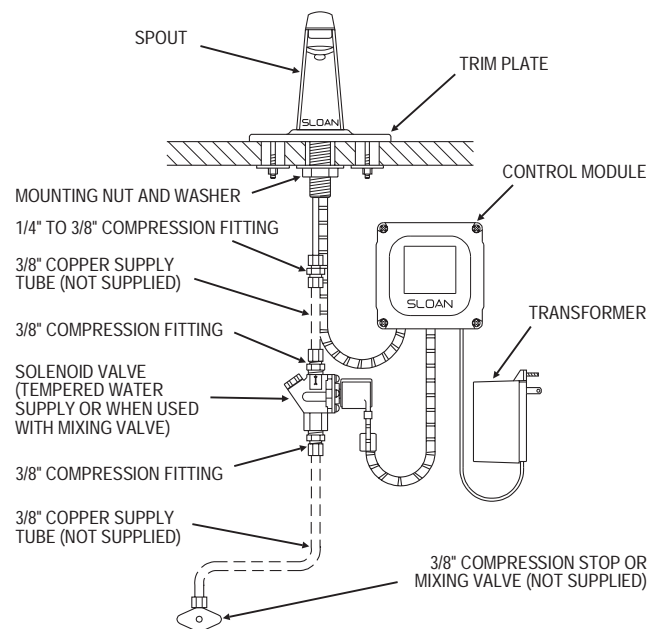

Figure 1
## FAUCET ROUGH-IN — Figure 1
Prior to installing the Sloan ETF-80 Faucet, install the items listed below. Also, refer to Figure 1.
The Sloan ETF-80 sensor operated faucet can be supplied with two back checks. When connecting the faucet to a hot and cold water supply, two back checks are required as shown in Figure 1. Water temperature can be controlled by adjusting the supply stops if the optional Sloan mixing valve is not purchased. When connecting the faucet to a single line water supply or a pre-tempered water supply, a back check is not required.
## Step 4 — Connect Supply Line(s) (Figure 1)
When connecting the Faucet to a hot and cold water supply, two Back Checks are required as shown in Figure 1.
Install a 3/8 inch copper Supply Tube between each Back Check and the Compression Tee Fitting supplied (refer to Figure 1).
Refer to Figure 1 — Faucet Rough-In for Additional Information.
**Step 6 — Mount Control Module to Wall (Figures 1 and 10)**
Install the Control Module in an appropriate location as shown in Figure 1. Control Module must be installed so that all cables enter from the bottom of the unit. When installed, Cables from the Spout and Solenoid Valve to the Control Module should have some slack.